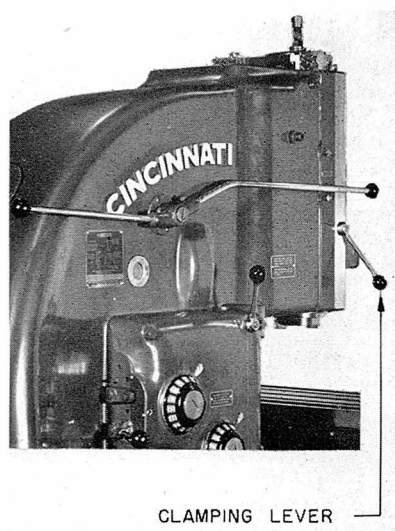

Figure 12
**Clamping the Head in Position.** Nut "Z" is for clamping the head in position. The lever on the left hand side of the head casting (Fig. 12) is a quick acting clamp which is convenient when using the feed to the head.